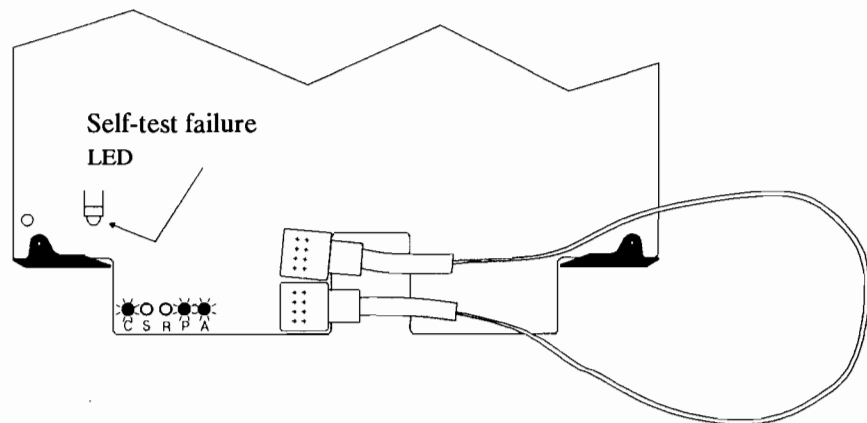

Figure 3-2. Testing the HP-FL PCA with a Loopback Cable
4. Observe the LEDs and determine if the PCA is good. Figure 3-2 and table 3-3 show the pattern of the LEDs with a loopback cable installed for a good PCA. Any other pattern means the PCA has failed the self-test. You should replace it.